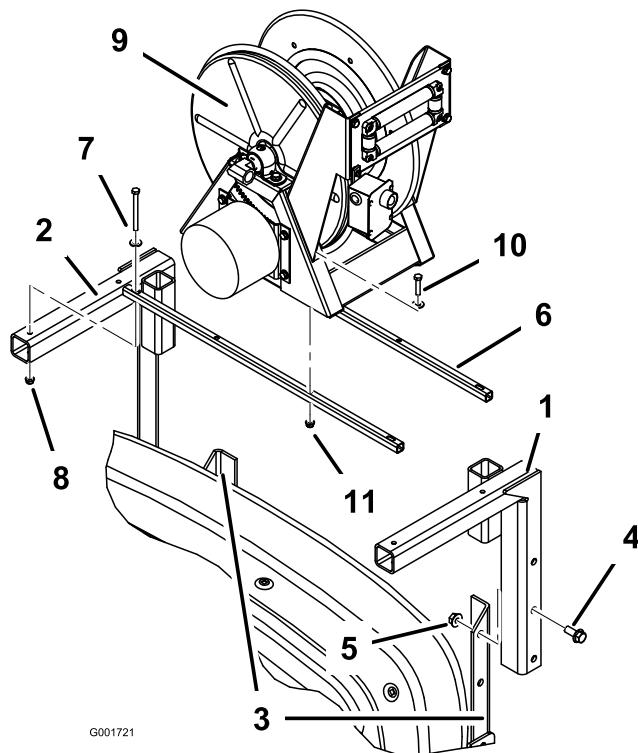

Figure 3
2. At the rear of the machine, install the left and right hose reel mounts to the boom frame as shown in Figure 3. Secure the mounts to the boom frame with four flange bolts (1/2 x 1-1/4 inches) and four flange nuts (1/2 inch).
3. Install two hose reel mounting tubes to the top of the hose reel mounts (Figure 3) using four bolts (5/16 x 3-1/2 inch), four flat washers (11/16 inch outside diameter), and four flange nuts (5/16 inch).
4. Install the hose reel assembly onto the hose reel mounting tubes (Figure 3) using four bolts (5/16 x 1-1/2 inches), four flat washers (7/8 inch outside diameter), and four flange nuts (5/16 inch). Do not fully tighten the fasteners to allow for later adjustment.